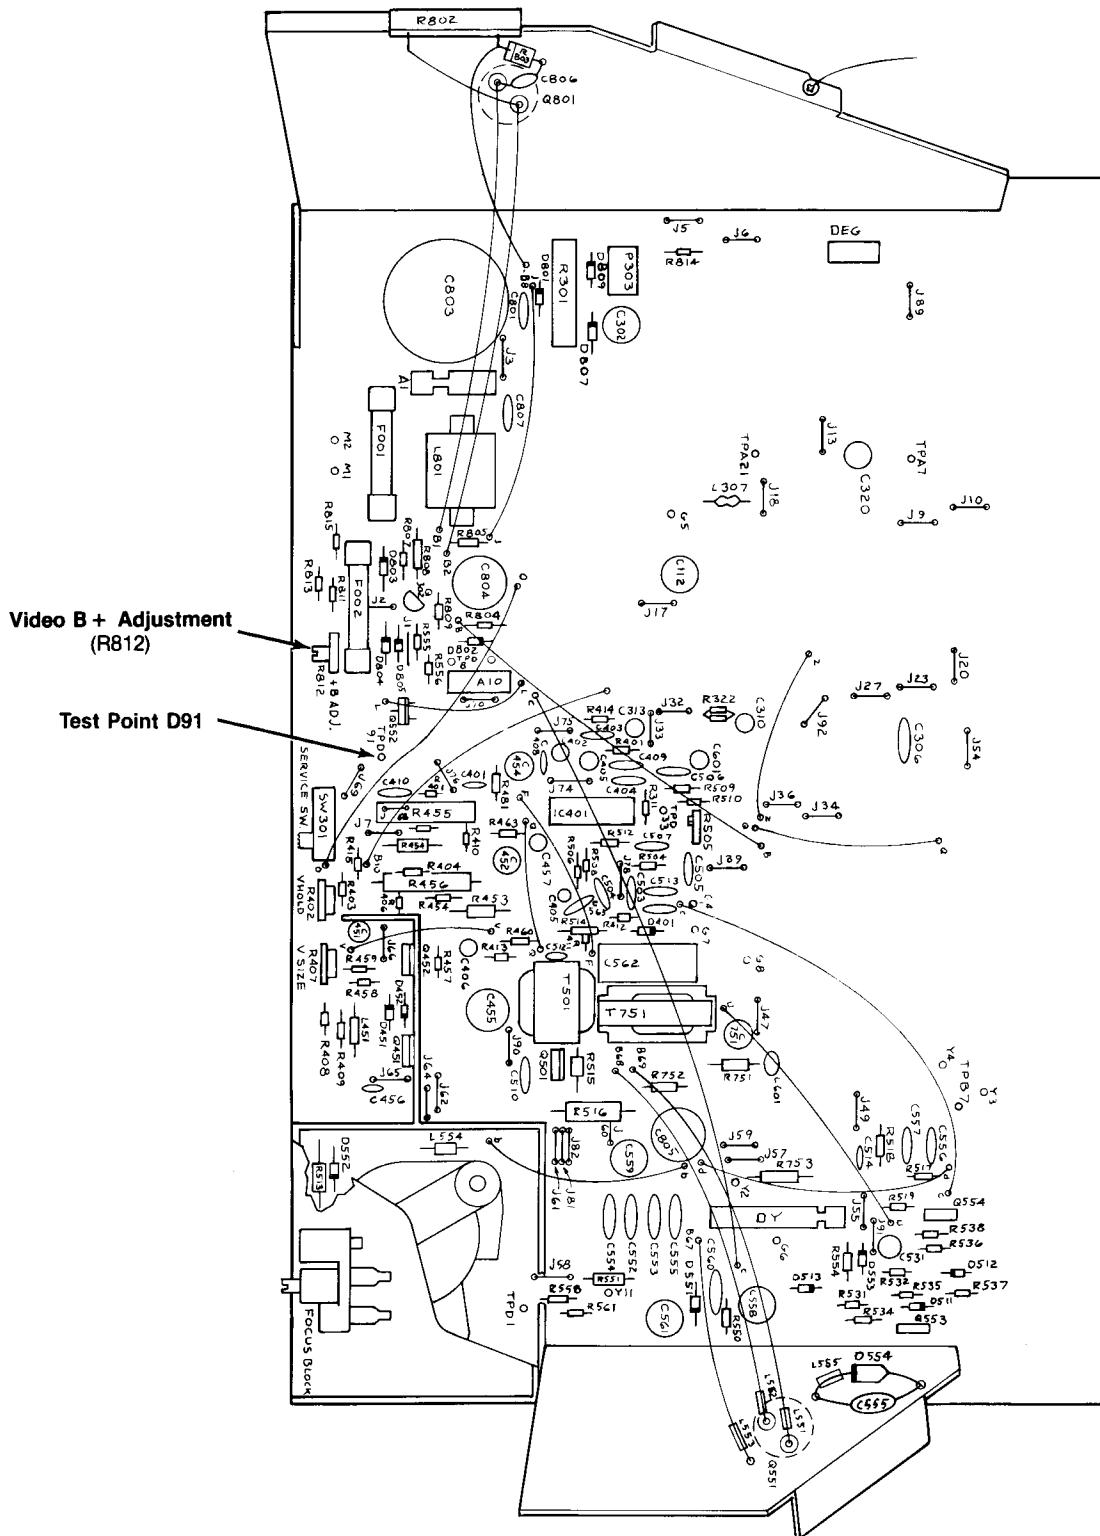

Figure 17 Locations of Video B + Adjustment R812 and Test Point D91
4. Connect the plus lead of the voltmeter to test point D91, which is shown in Figure 17.
6. Adjust R812 on the Main PCB, shown in Figure 17, for a voltmeter reading of + 123 volts.